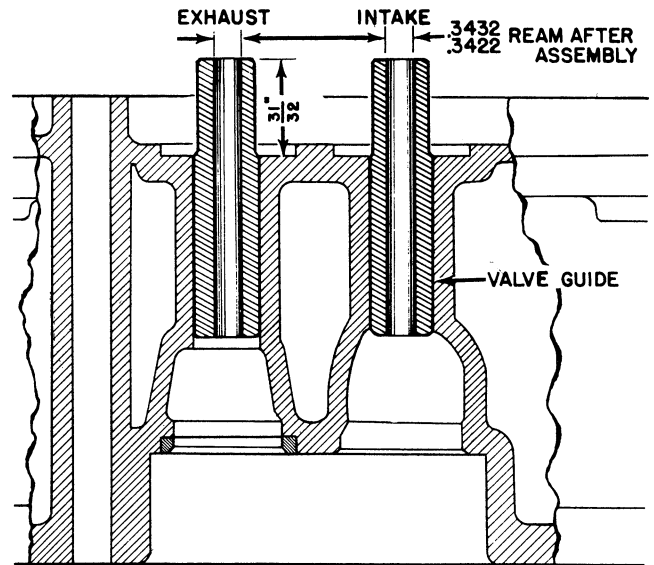

Figure 18 - Installing Valve Guide
3. Press valve guides into the head from the top. Figure 18.
4. When installing new guides, press into place so that guide extends 31/32 inch above counterbored surface of cylinder head as shown in Figure 18.